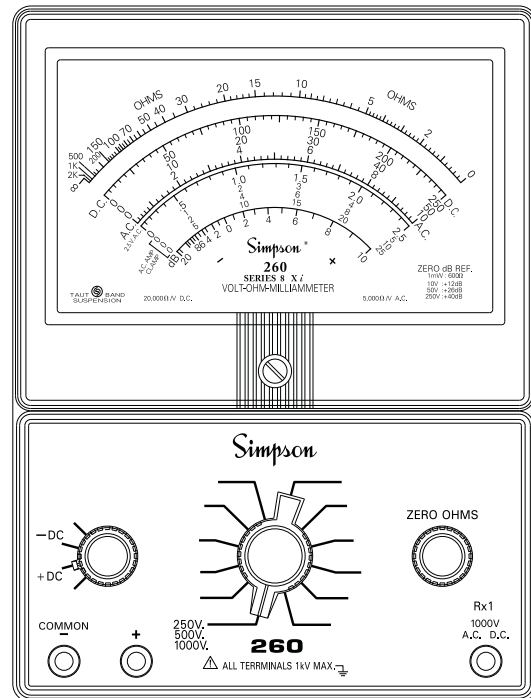

Figure 4-3. Jacks and Switch Positions for Measuring DC Voltage, 1000V Range
- a. Set the function switch at +DC (Figure 4-3).